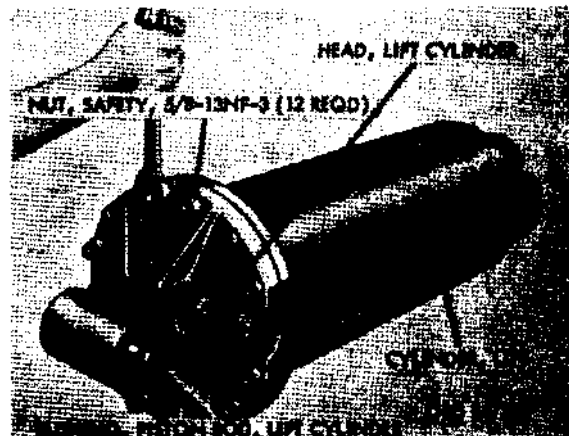

Figure 464. Lift cylinder assembly
a. Disassembly. It will not be necessary to disassemble the lift cylinder assembly (fig. 464) unless it is known to be defective. If disassembly is necessary, extreme care must be exercised to avoid damage to the highly polished surfaces of the cylinder assembly. Do not remove oil seal or bushings unless inspection reveals that replacement is necessary.